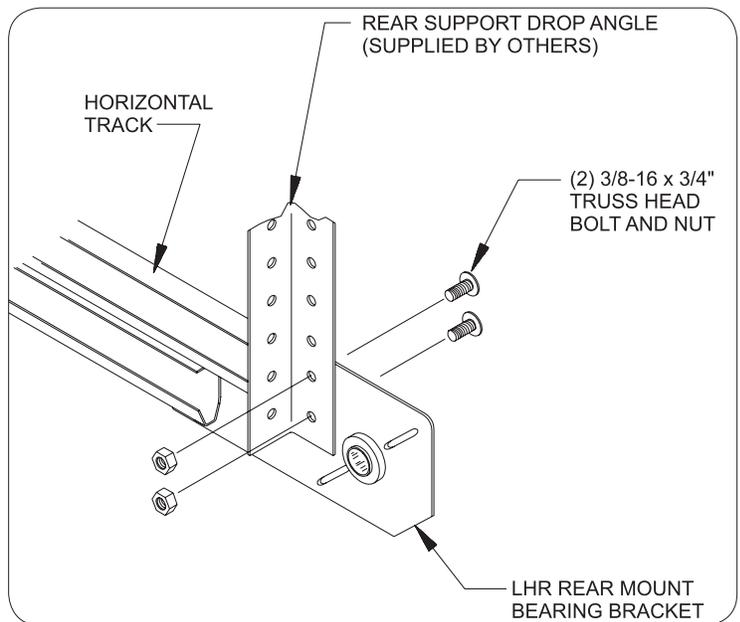

FIG. 14.1
With assistance, raise the door until 1-1/2 sections are in the horizontal track. Clamp a pair of locking pliers, below the bottom rollers, onto the straight leg of both vertical tracks to prevent the door from falling. Move the horizontal track until it is parallel with the edge of the door, then secure the horizontal track to the rear support drop angle using (2) 3/8"-16 x 3/4" truss head bolts and nuts each, as shown in FIG. 14.1. With assistance lower the door back into the opening.